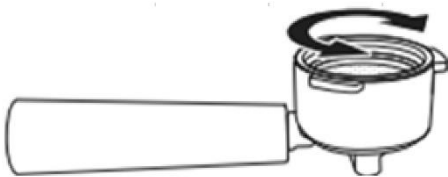

Fig. 2
- 2. Rotate the filter a small way to help prevent the filter from falling out of the filter when emptied (fig.2).